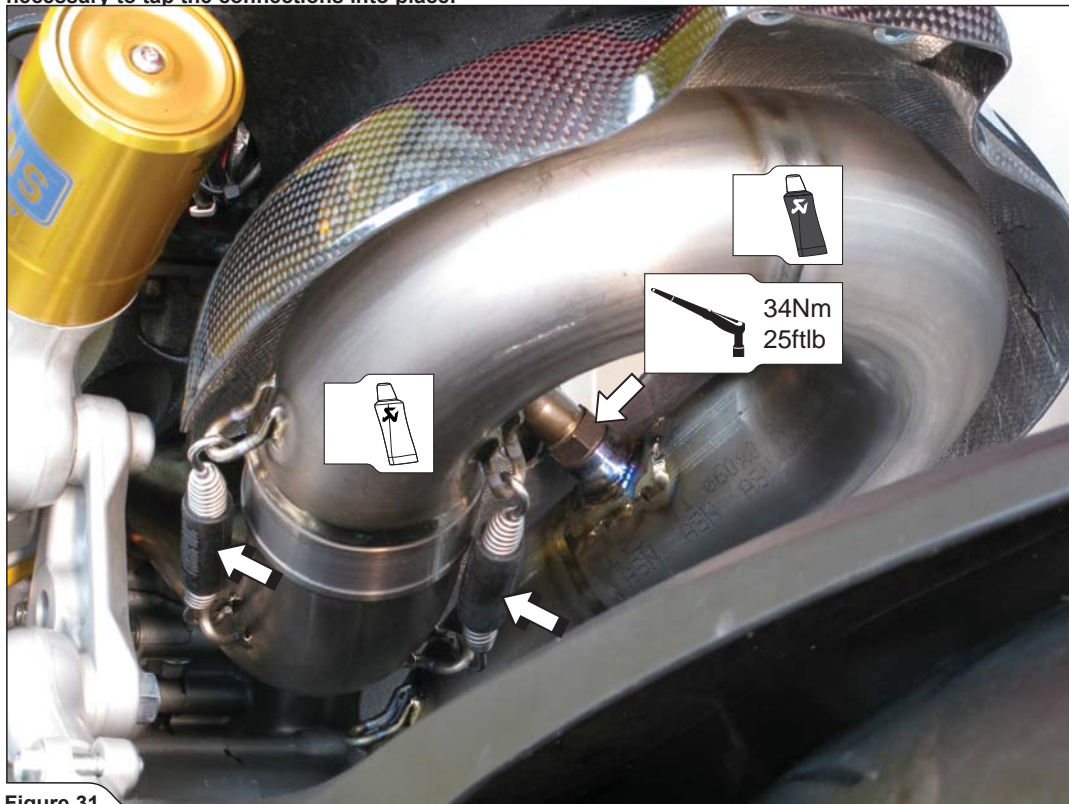

Figure 31
7. Slide the link pipes onto both headers, attach the springs and tighten the lambda sensors (**Figure 31, 32**).